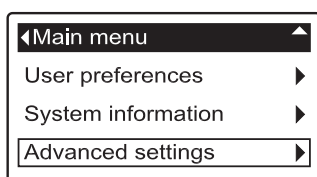

FIG. 60
1. From any of the rolling status screens, press the SELECT (O) button to display the **Main menu**.
2. Press the DOWN (▼) button to scroll through the menu options until **Advanced settings** is highlighted (See Figure 60).